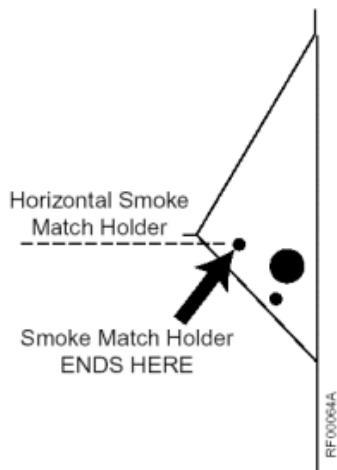

Fig.20
2. After 5 minutes light a smoke match (in a smoke match holder) and insert horizontally till the tip lines up with the front top hole in the firebox canopy - see Fig. 20. The smoke should be drawn into the fire. If it is not drawn into the fire, remove the fire and remove the spigot restrictor (1 screw). Refit the fire and re-perform the test.